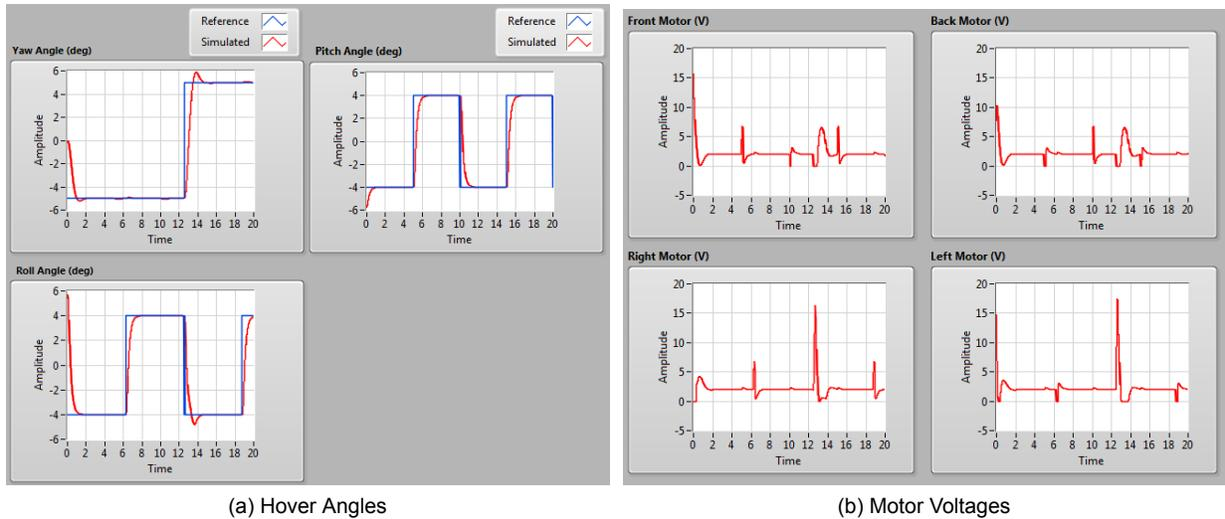

Figure 3.4: Sample simulated closed-loop response of 3 DOF Hover
- Run the simulation by clicking on the *OK* button. The scopes should be displaying responses similar to Figure 3.4. The yaw, pitch, and roll angles should track the commanded square position signal scope. The control signal is shown on the *Motor Voltage* tab and it shows how the Saturation block only allows positive control voltages and limits them to a maximum of 20V (which can be changed). At low command angles, the voltages are changing about the bias voltage 2 V, i.e.,  $V_{bias} = 2V$ .